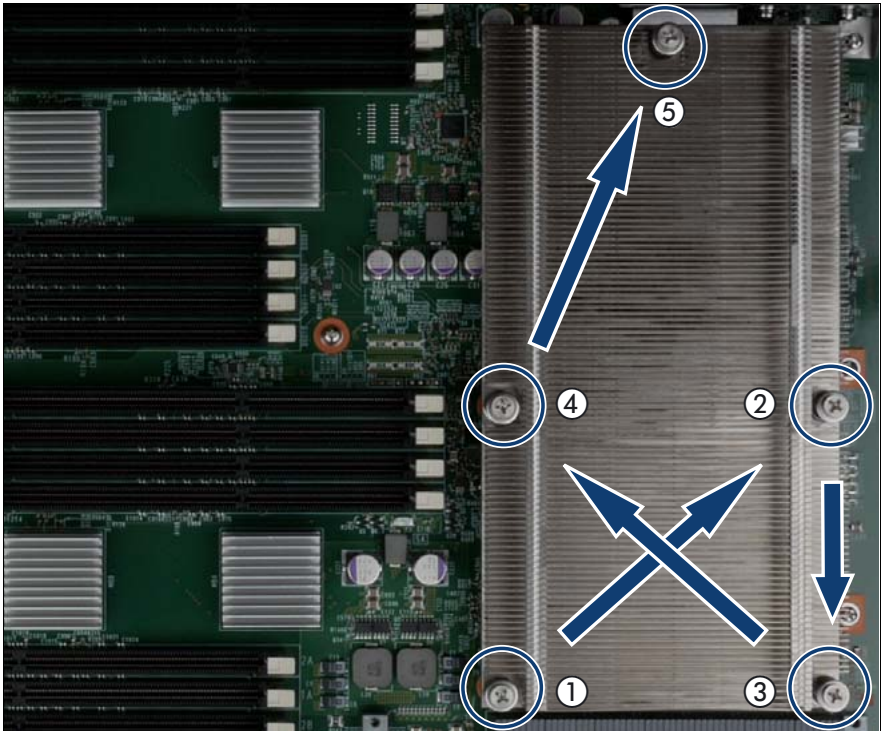

Figure 131: Installing the heat sink
- Start with screw 1 to screw 5 as indicated in figure 131 and continue with screw 1.